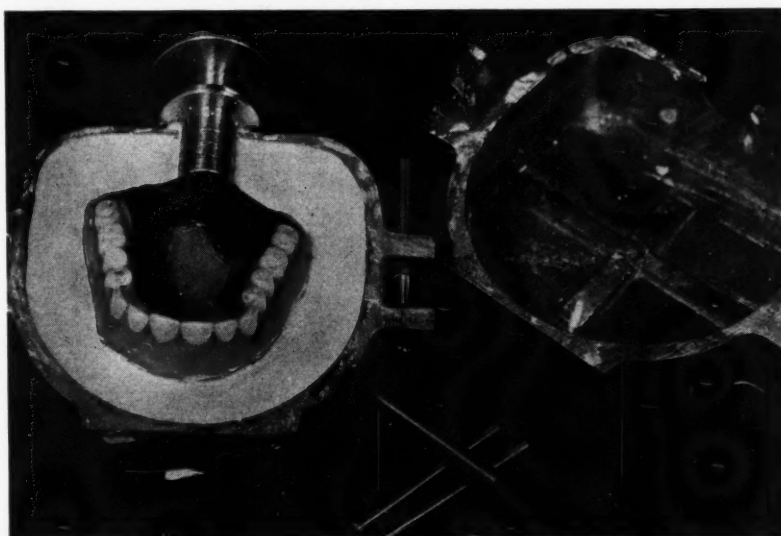

Fig. 6—Invested case in lower half of flask before tin-foiling preparatory to pouring upper half. (Note that the red wax shows sprue.)
1. The waxed case is invested in the bottom half of the flask (Fig. 6).